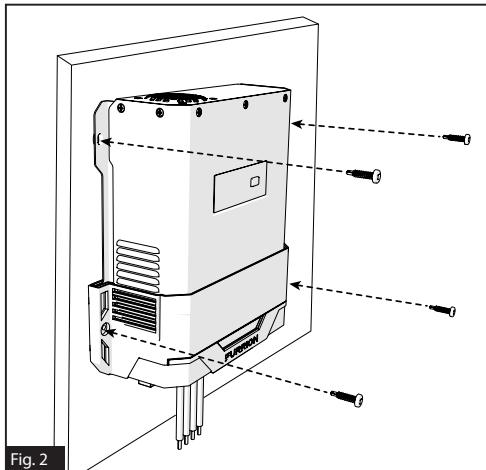

Fig. 2
2. Affix MPPT controller to the wall with 4 mounting screws (can be the standard RV screw) (not included). (Figure 2)